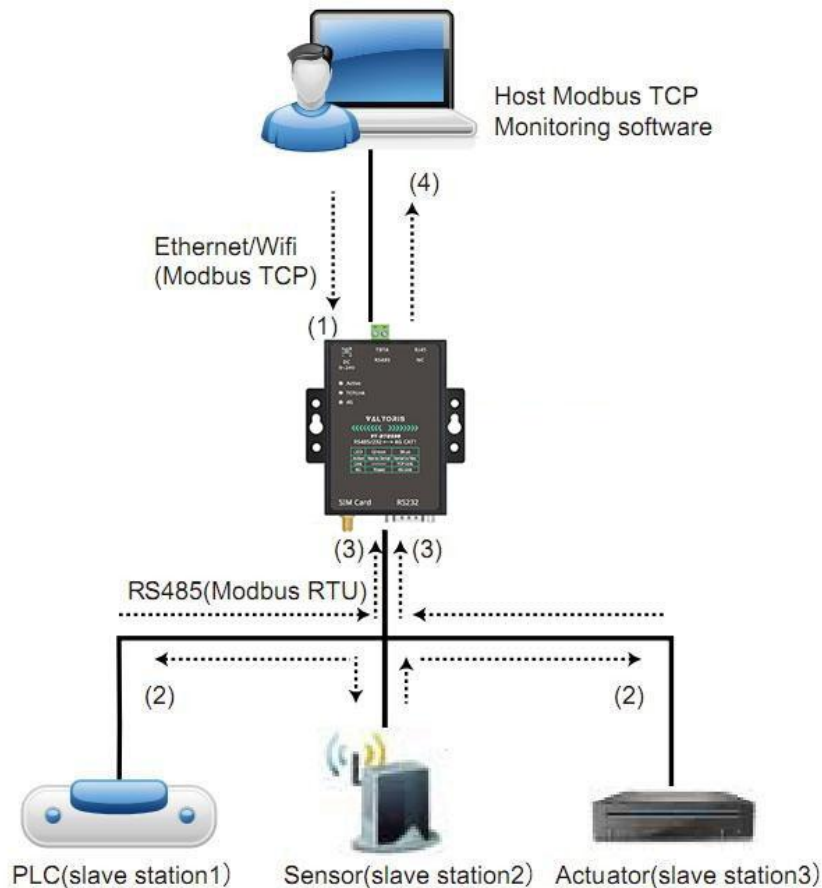

Figure 42 Storage Modbus Gateway
As shown in Figure 42: The direction of ordinary Modbus TCP data flow is (1) → (2) → (3) → (4). That is, the Modbus TCP command is first converted into the corresponding command of Modbus RTU, and then the device responds to the Modbus RTU command to the Modbus gateway, and then the Modbus gateway converts it into Modbus TCP again and sends it to the monitoring host computer.